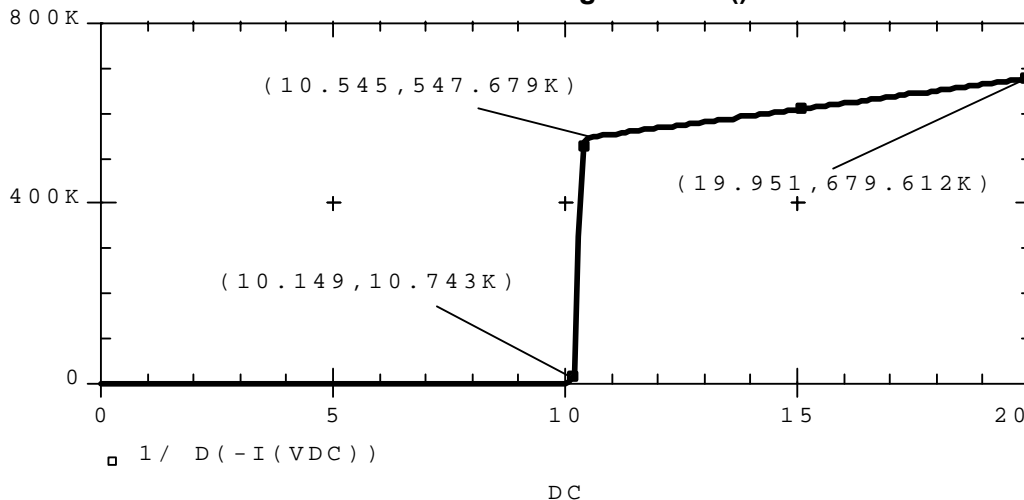

FIGURE 13:
3. DC differential output resistance vs. DC applied voltage (a DC SWEEP using a built-in PROBE function) (Figure 13)
Figure 13 shows how the PSPICE function D(), which takes the derivative of its argument with respect to the x-axis variable, can be used to find the mirror resistance as the inverse slope of the I - V curve. D() can be found on the TRACE ADD menu in the right-hand column under ANALOG OPERATORS AND FUNCTIONS. If this window is blank, try scrolling the FUNCTIONS OR MACROS window at the top of the column. At a DC voltage of 10.15V the output transistor begins to leave saturation and by DC = 10.55V it has become active. The I - V curve then has a low slope, implying a high output resistance.
Next, we use PROBE to generate the output resistance of the current mirror using an AC analysis. This approach has two possible advantages over a DC analysis: it avoids the numerical differentiation used in Figure 13 that can sometimes lead to "noisy" behavior if the voltage increment in DC is chosen too small, and it provides the frequency dependence of the Norton impedance introduced by the transistor capacitances (these are studied later in the course).